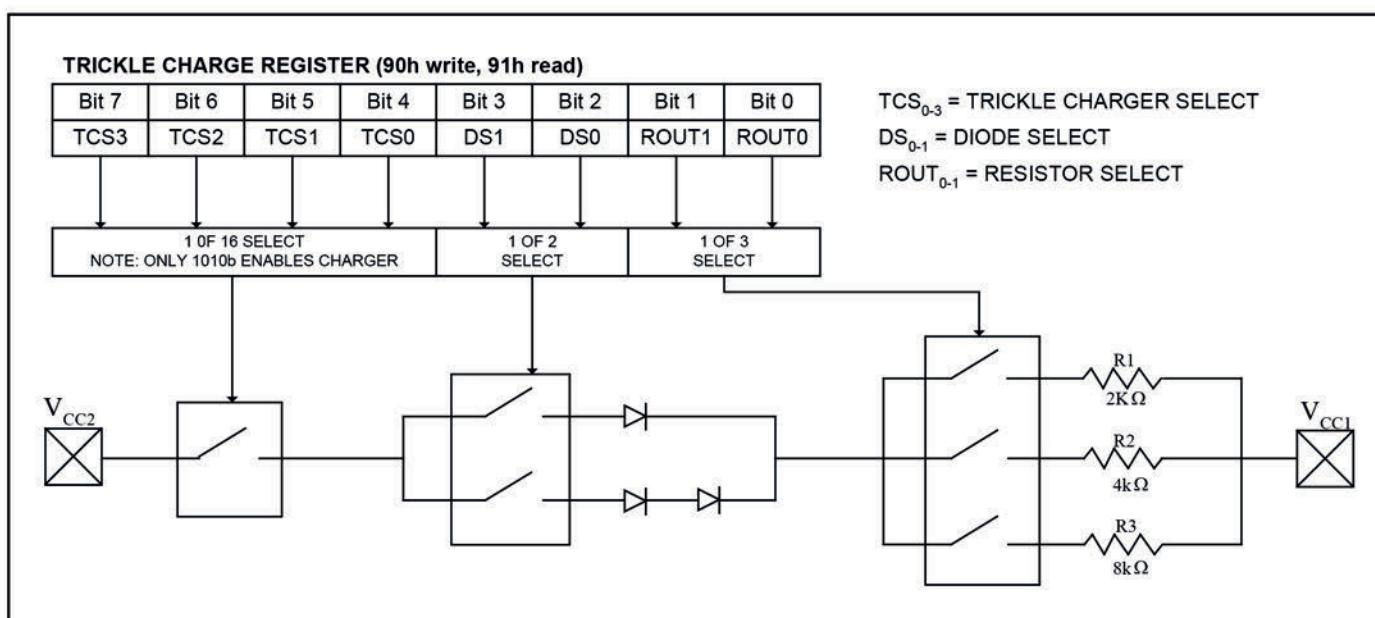

Figure 5. Programmable Trickle Charger
This register controls the trickle-charge characteristics of the DS1302. The simplified schematic of Figure 5 shows the basic components of the trickle charger. The trickle-charge select (TCS) bits (bits 4 to 7) control the selection of the trickle charger. To prevent accidental enabling, only a pattern of 1010 enables the trickle charger. All other patterns will disable the trickle charger. The DS1302 powers up with the trickle charger disabled. The diode select (DS) bits (bits 2 and 3) select whether one diode or two diodes are connected between V_{cc2} and V_{cc1}. If DS is 01, one diode is selected or if DS is 10, two diodes are selected. If DS is 00 or 11, the trickle charger is disabled independently of TCS. The RS bits (bits 0 and 1) select the resistor that is connected between V_{cc2} and V_{cc1}. The resistor and diodes are selected by the RS and DS bits as shown in Table 2.